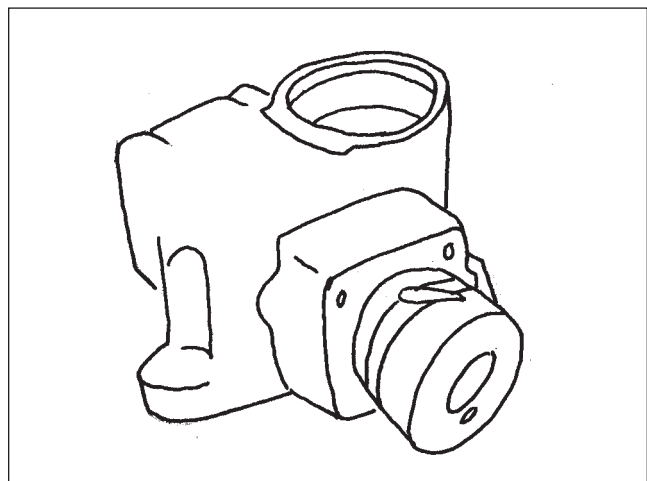

**Figure 121**
2. Install a new sector shaft seal in the housing (**Figure 121**).